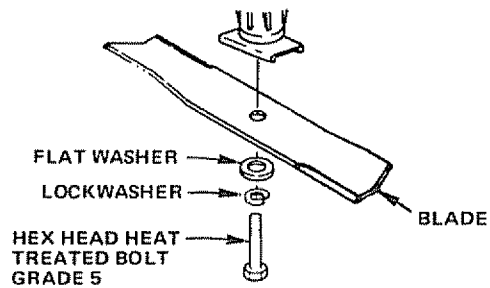

FIGURE 27
1. Remove the Hex Head Bolt, Lockwasher and Flat Washer (Fig. 27).